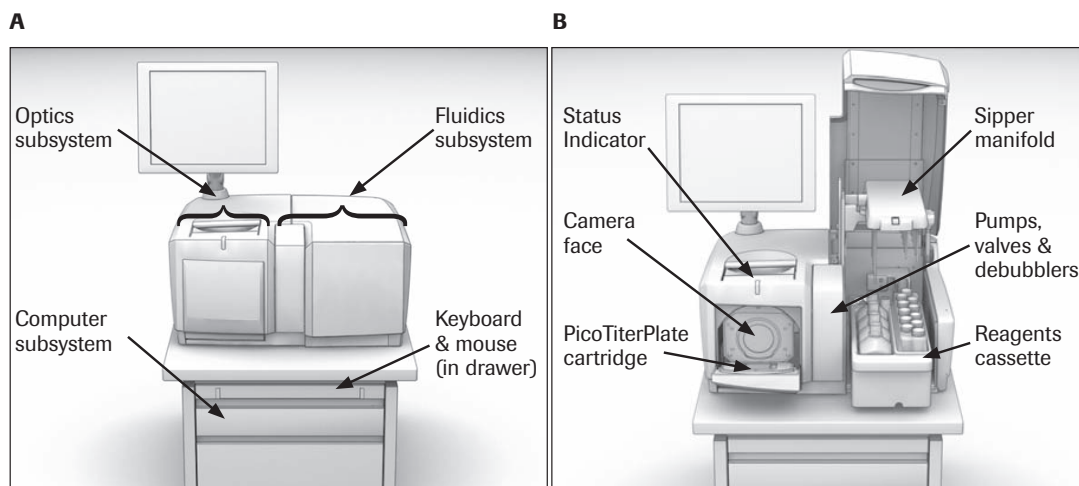

Figure 1–2: Main components of the Genome Sequencer FLX Instrument
- ▶ The **fluidics subsystem** moves the sequencing reagents across the wells of a PicoTiter-Plate device (PTP device), and then moves spent reagents from the PTP device to the waste receptacle. The fluidics subsystem includes a Reagents cassette, which holds the reagent containers and doubles as a waste container; a reagent sipper tube assembly and reagent tubing; a 16-position valve manifold; 2 main peristaltic pumps; 2 debubblers with secondary “purging” pumps; a heated PTP cartridge holder (in the camera door); and effluent tubing leading to the waste container (Figure 1–2B).